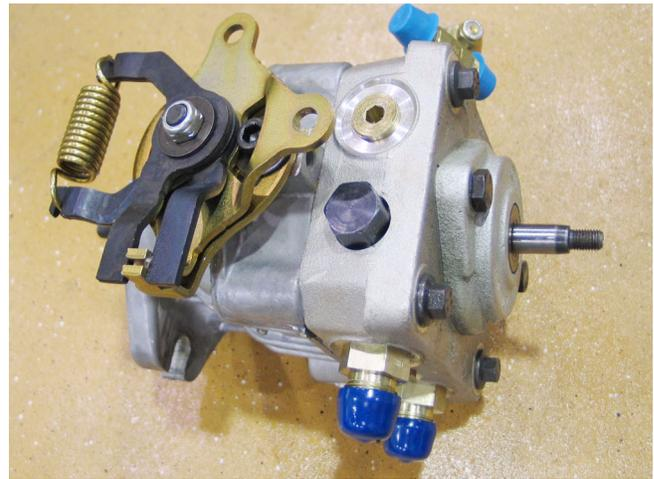

Figure 25.20
25.20. On the bench: See Figure 25.20.